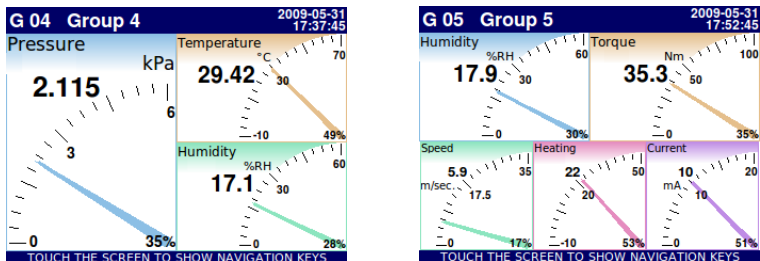

Fig. 6.10. Examples of **Needle Dials** for 3 channels and for 5 channels
- as needle dials **Fig. 6.10**